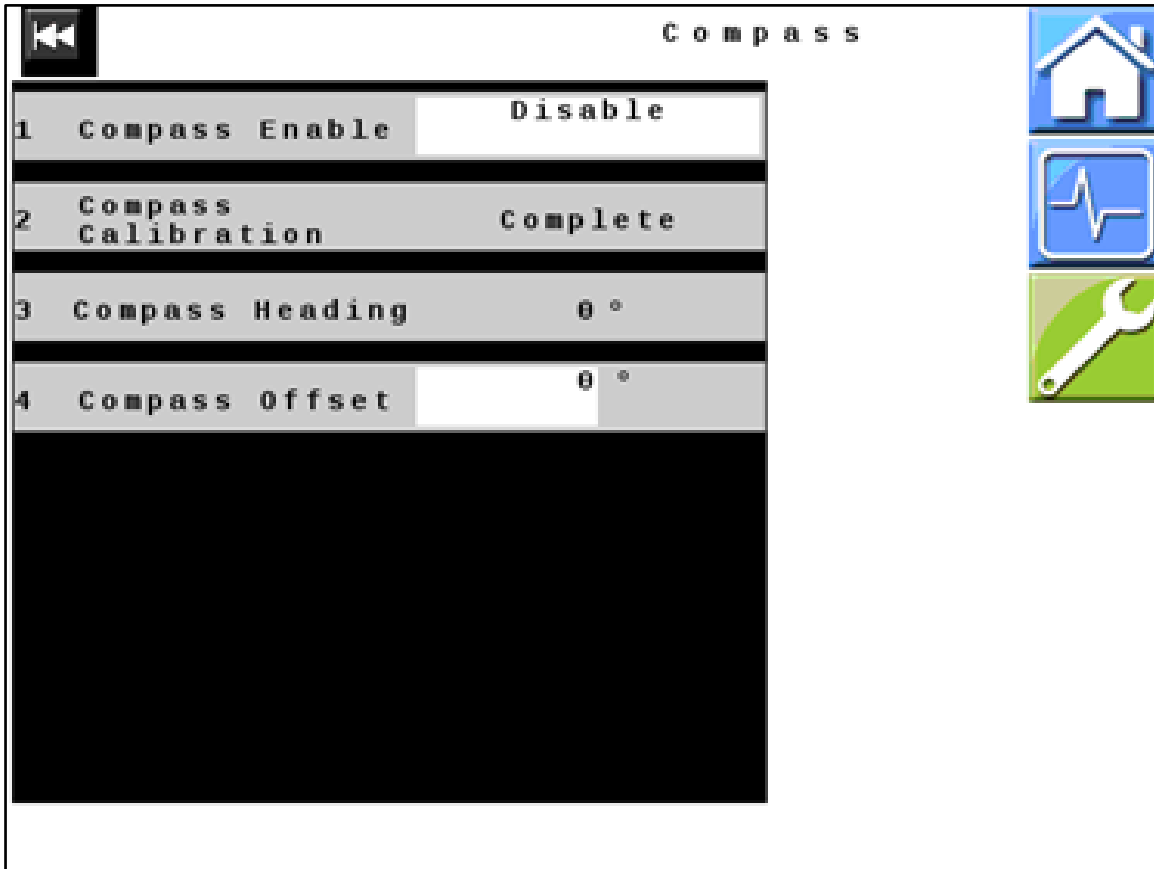

Figure 26 — Compass
48. *Figure 26:* Verify that all values displayed on your unit match those shown here. Change values if necessary.